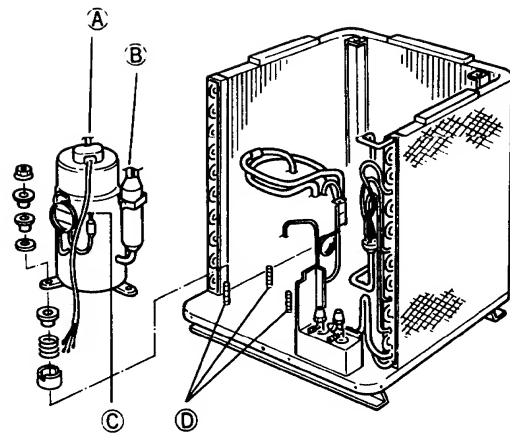

Fig. 13
Take apart three joints (A), (B) and (C) brazed to the compressor by brazing torch (Fig. 13)